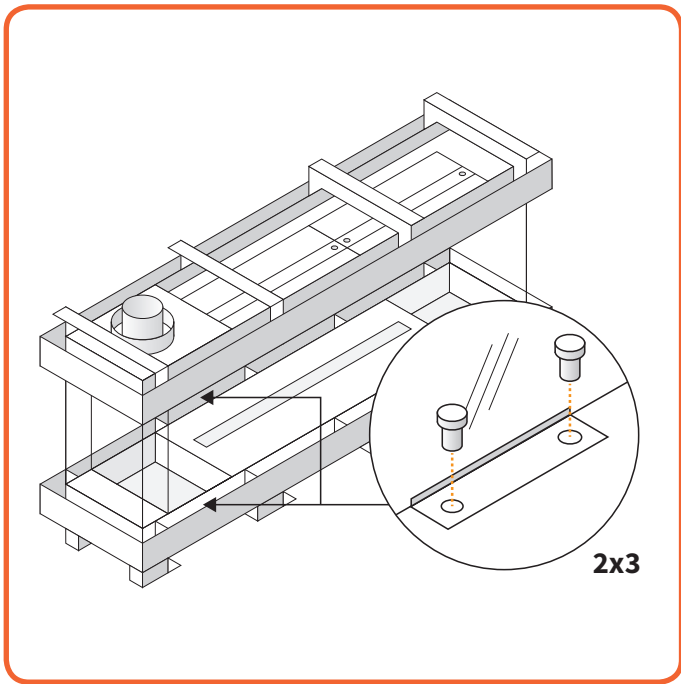

Figure 10.16 -
- Remove the glass clips by loosening the screws. (See **Figure 10.16**)